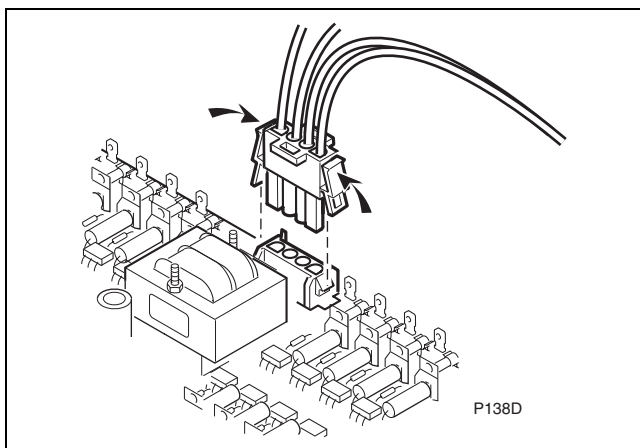

Figure 9
f. Unplug the four-pin connector by grasping and squeezing the sides. Refer to Figure 9.
- Remove the AC drive board from the nylon standoffs that fasten the board to the module. Refer to *Figure 9*, and remove the board.